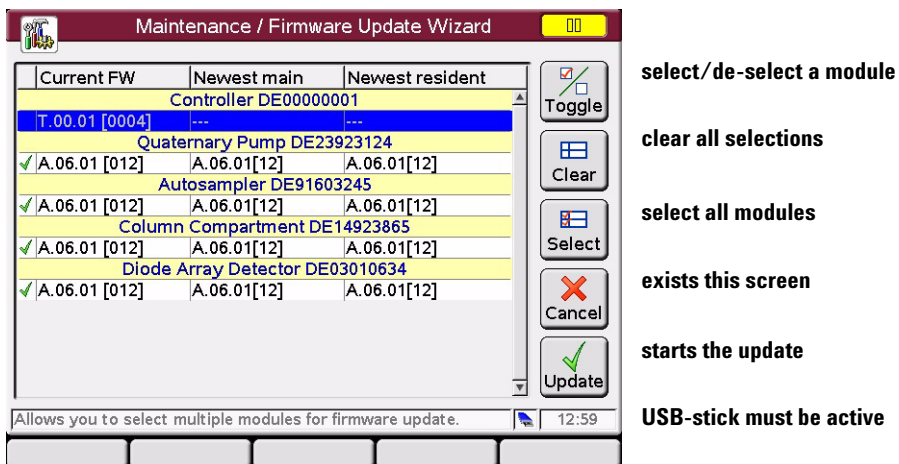

Figure 65 Firmware Update Screen - Update Wizard
- 2 The next screen (**Figure 65**) shows all modules, their installed firmware revisions and the available firmware revisions on the USB Flash Drive.